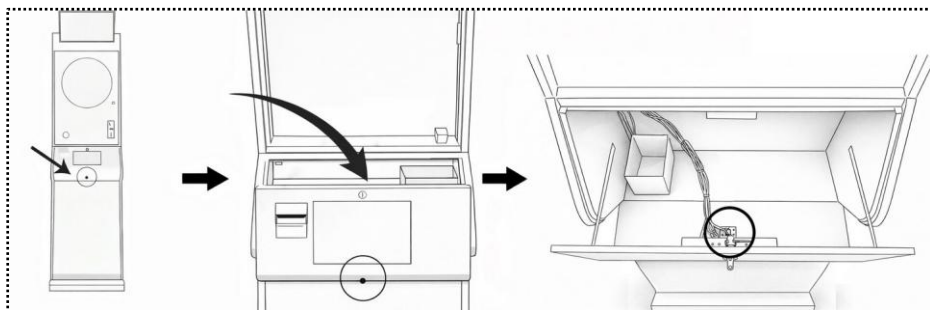

Figure 13.1: IR sensor position
13.2.1 Adjusting the Infrared (IR) Sensor
- **Sensor location:** The infrared (IR) sensor is located on the metal door of the lower cabinet, just below the touchscreen. To access the sensor, the lower door of the machine must be opened (see Figure 13.1).